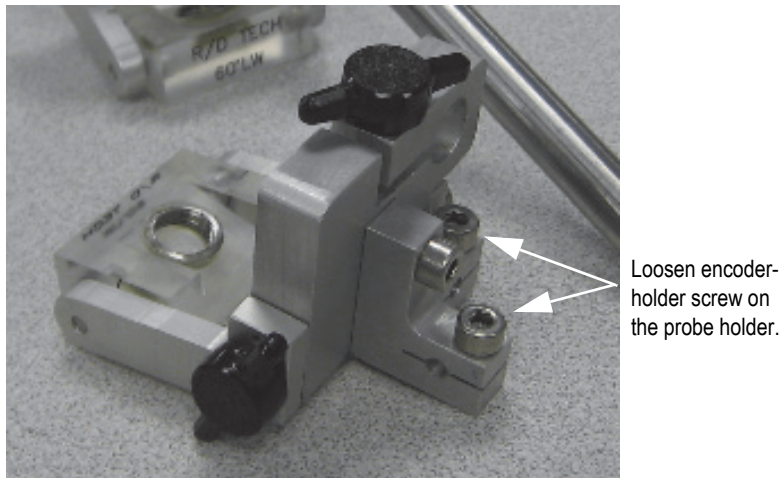

Figure 1-7 The two encoder holder screws
1. Use the hexagonal key to loosen the screw securing the Mini-Wheel encoder pin into the encoder holder (see Figure 1-7 on page 23).